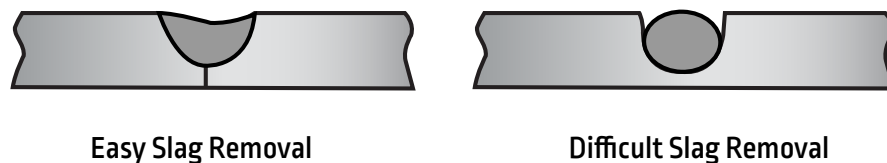

Figure 5-7: Bead Shape before Final Cap Pass
- To ensure good slag removal on thinner-walled material requiring only two or three passes, the pass before the last pass should wash just to the top (see Figure 5-7).